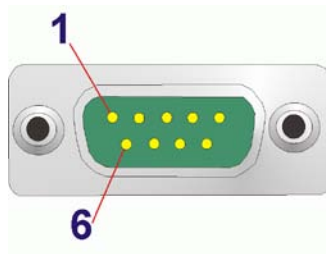

Figure 3-9: CAN-bus Connector Pinout Location
- CN Pinouts: See **Table 3-2** and **Figure 3-9**